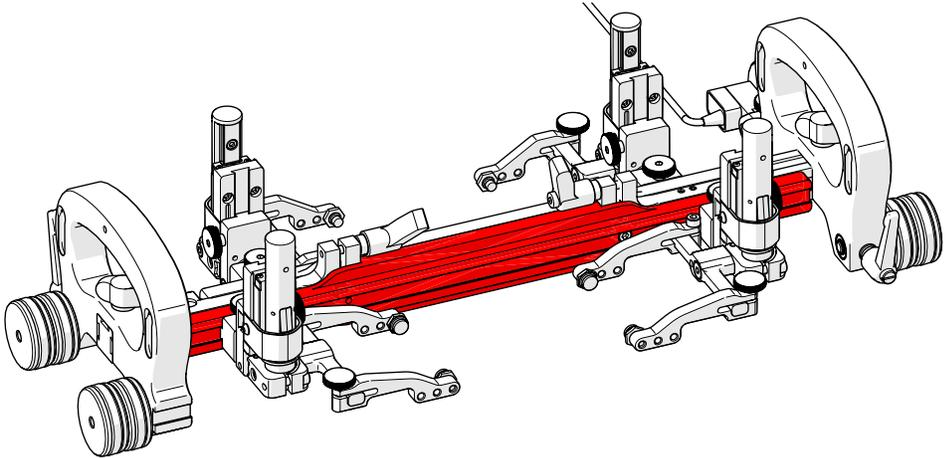

Fig. 91 - Phased array to longest bar
5. When performing a four probe scan, place phased array probe holders on the longest bar (Fig. 91) of the dual pivot frame bar (Illustrated in red).